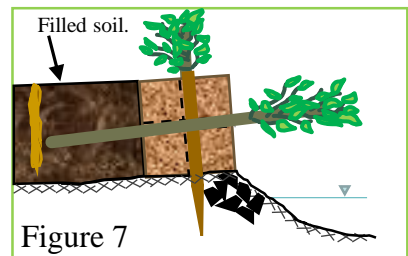

Figure 7
5. Fill soil up to the top level of the BioD-SuperLog™ (Figure 7).
6. Insert coir plugs removed from the BioD-SuperLog™ vertically into the filled soil mass (Figures 7 & 8).